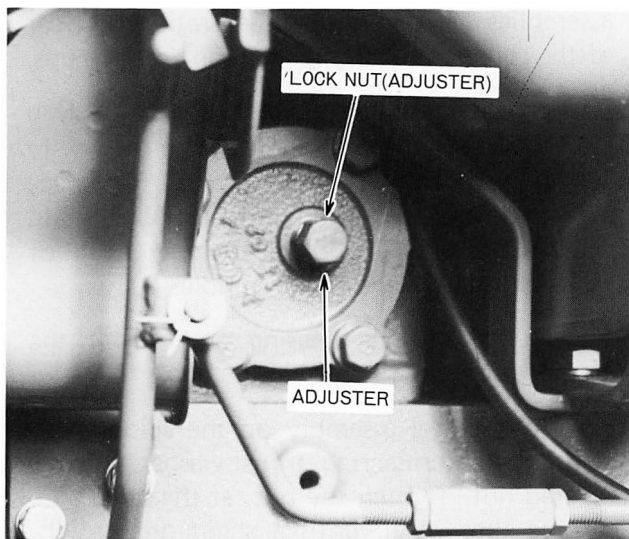

Figure 64 – Steering Wheel Free Play Adjustment
2. Loosen the adjuster locknut on the right side of the steering gear box and turn the adjuster screw, see Figure 64. Turning the screw clockwise will decrease the free play while turning the adjuster screw counterclockwise will increase the steering wheel free play.